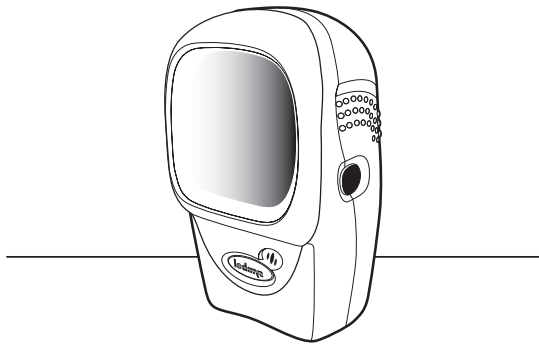

Figure 2-4. Scanner Standing Alone
2. Insert the scanner in the optional hands-free stand by placing the front of the scanner into the stand’s “cradle” (see Figure 2-3) or place the scanner on a flat surface (see Figure 2-4).